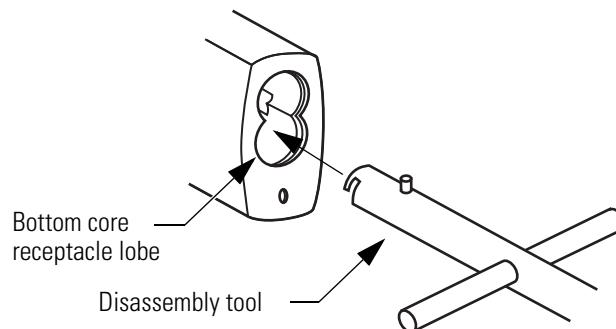

Figure 2.11 Inserting the disassembly tool
3. With the padlock in the locked position, insert the disassembly tool into the bottom core receptacle lobe, as shown in Figure 2.11, until it touches the locking cam.